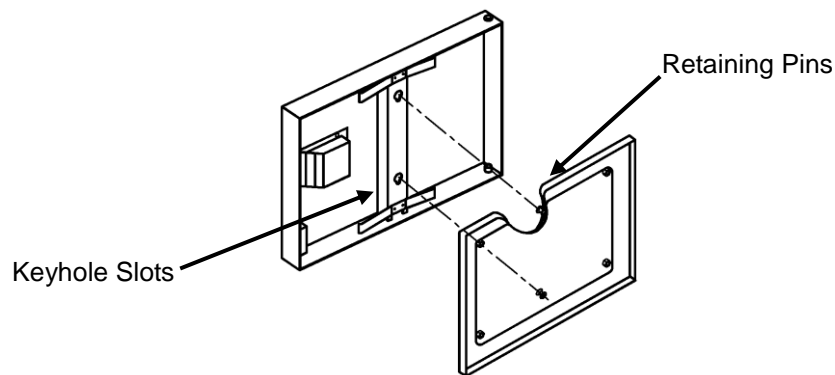

Figure 5-1
- a. Remove the door gasket assembly (see Figure 5-1) by holding the gasket assembly at the sides and lifting and away from the door.